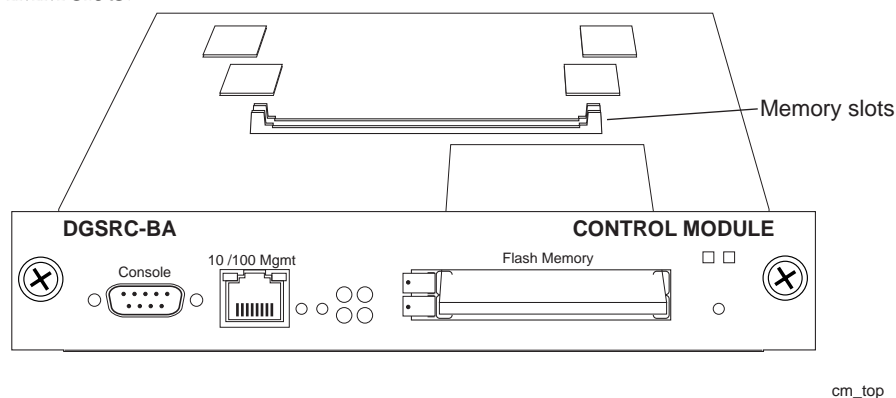

Figure 15. Location of DIMM slots
4. Remove the DIMMS from the memory slots. Figure 15 shows the locations of the DIMM slots.